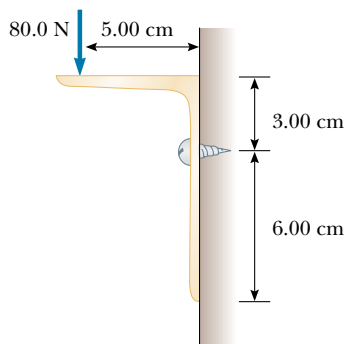

Figure P12.61
61. A shelf bracket is mounted on a vertical wall by a single screw, as shown in Figure P12.61. Neglecting the weight of the bracket, find the horizontal component of the force that the screw exerts on the bracket when an 80.0-N vertical force is applied as shown. (*Hint:* Imagine that the bracket is slightly loose.)